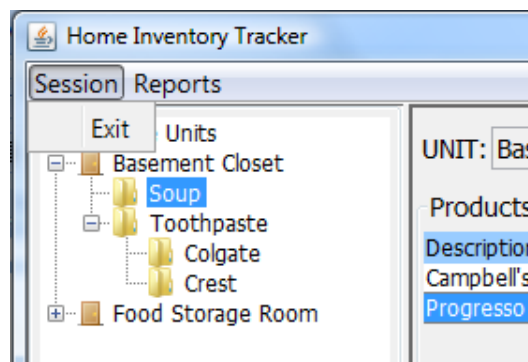

Figure 7 - Session Menu
- 1) The Session Menu (Figure 7) provides the following operations: